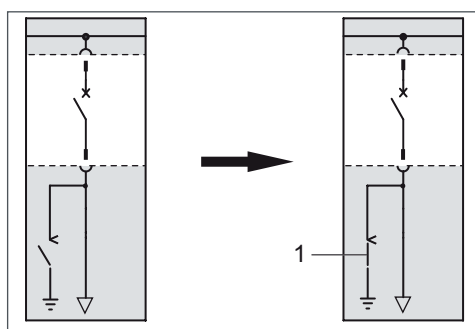

Figure 57
2. Switch the earthing switch ON (Figure 57,1).